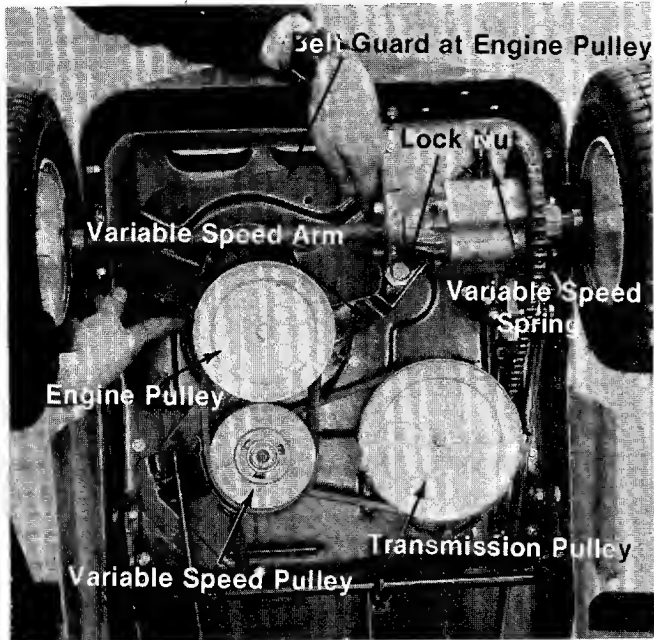

FIGURE 24. ENGINE BELT GUARD REMOVAL
Step 4. Remove the belt guard at the engine pulley. See figure 24.
Step 5. Remove the nut and lock washers at the transmission pulley and variable speed pulley. See figure 24.
Step 6. Remove the lock nut at the variable speed arm and lift off the spring. See figure 24.